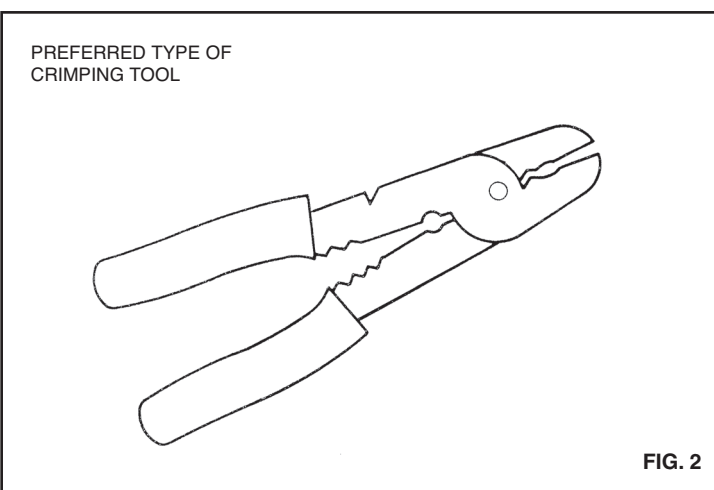

FIG. 2
2) Strip 1/4" of insulation from the lead wires. Crimp terminals provided onto correct polarity wire using the recommended tool shown in fig. 2. Install the lead wires onto the pump terminals, making sure that proper polarity is maintained. If installed incorrectly the pump will run backwards and will not pump.